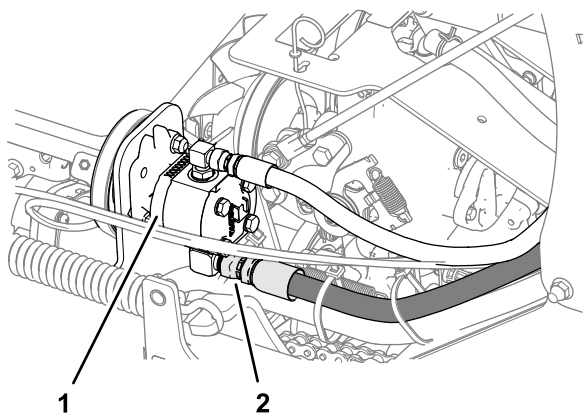

Figure 51
6. Loosen the suction hose at the pump fitting, clean around the pump fitting, and allow oil to drain (Figure 51).